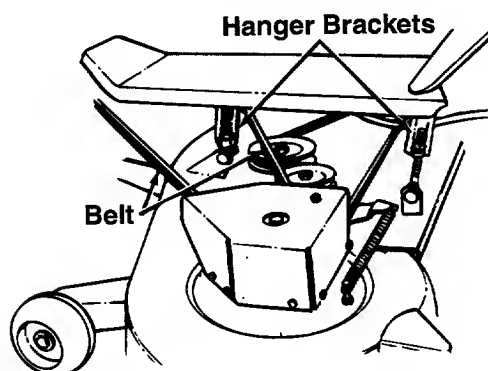

FIGURE 14.
6. Attach the four tractor hanger brackets to the deck as follows. The left front tractor hanger bracket goes through the center of the V-belt. See figure 14. Attach the rear hanger brackets first, then the front, using four flat washers and hairpin clips.